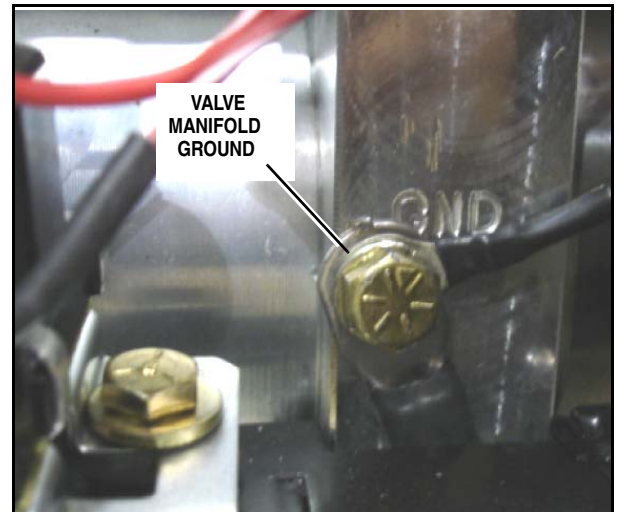

Figure 7
b. If it is **ground switching**, connect ring terminal to valve manifold ground (See Figure 7.).